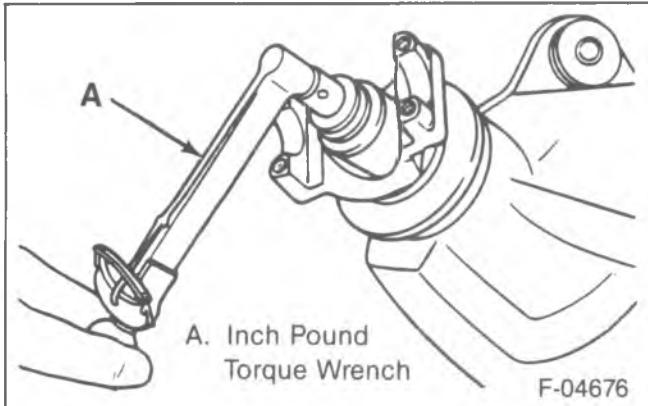

Figure 15—Checking Pinion Preload
- The pinion washer (12) and a new nut (11) while holding the pinion flange with J-8614-01.
- Remove J-8614-01. Using an inch-pound torque wrench, check the pinion preload by rotating the pinion with the wrench (figure 15). Preload should be at or below 2.7 to 3.6 N·m (24 to 32 in. lbs.) on new bearings, or 1.0 to 1.4 N·m (8 to 12 in. lbs.) for used bearings.